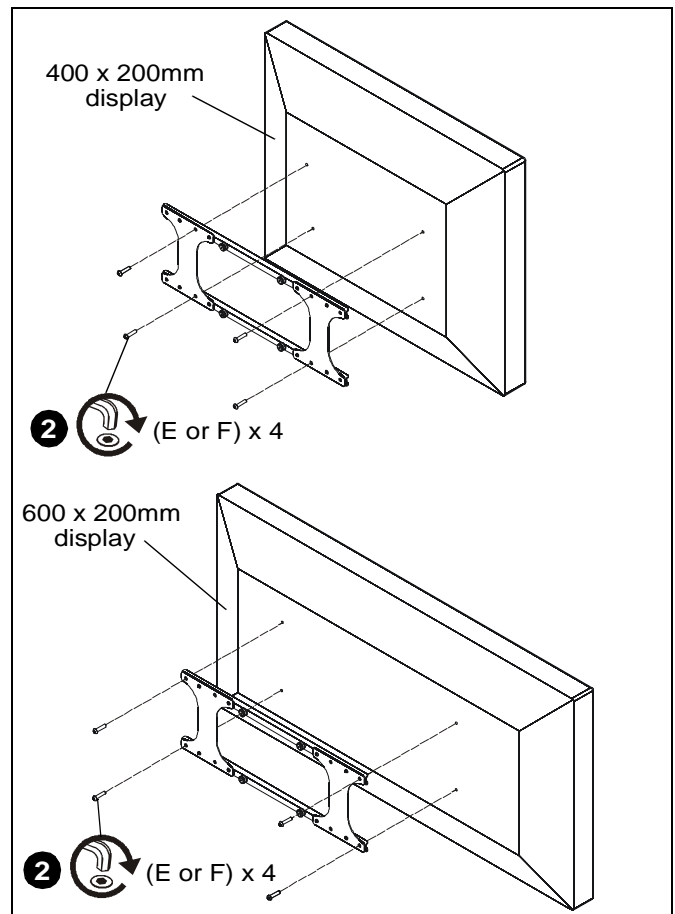

Figure 2
NOTE: For 400 x 200mm displays, use the inner holes to connect to display. For 600 x 200mm displays, use the outer holes. (See Figure 2)
3. Attach interface bracket to back of display using four M8 button head cap screws (E or F). Use proper screw length based on depth of holes on display. (See Figure 2)